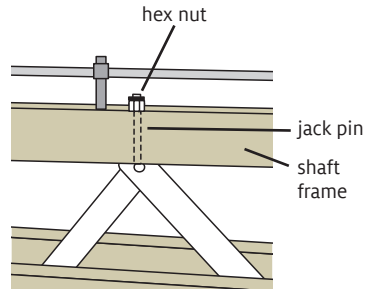

FIGURE 4: JACK PIN ATTACHMENT
14. Remove the shafts from the loom by removing the rubber O-rings and unscrewing the small hex nuts from the jack pins (Figure 4). Pull the shaft straight up and out of the loom. When you put the shaft back in the loom, be sure to insert the jack pin back into the hole and secure it with the hex nut. Replacing the rubber O-ring is optional.